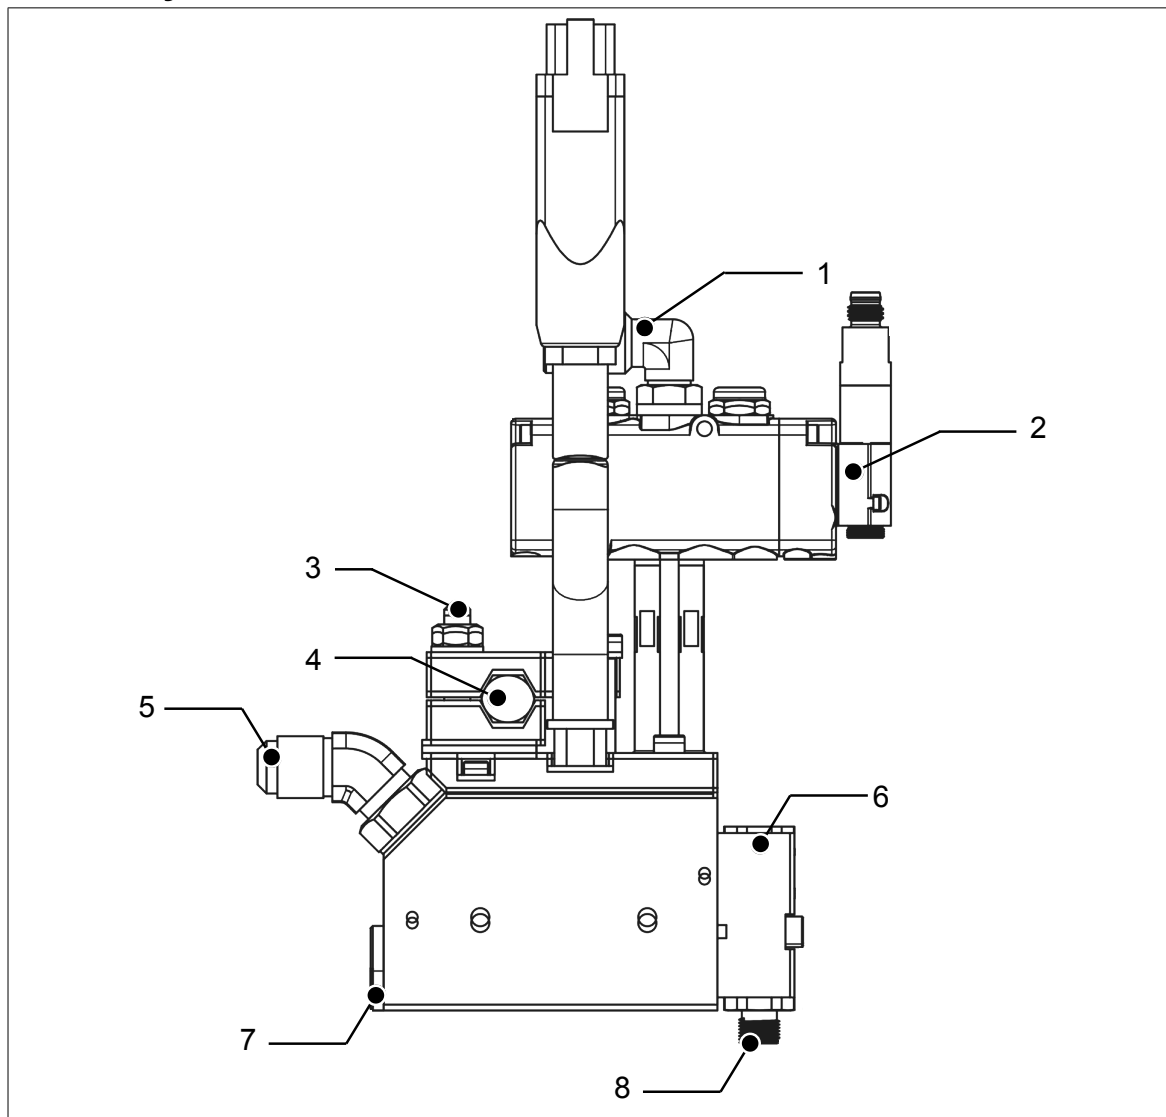

Figure 2: Connections HB 11
Connect the compressed air supply (quick coupler PK4) to the connection (1) (see Figure 2).
4. Screw on the heatable hose with connection (5) (see "Figure 2: Connections HB 11" on page 6) .